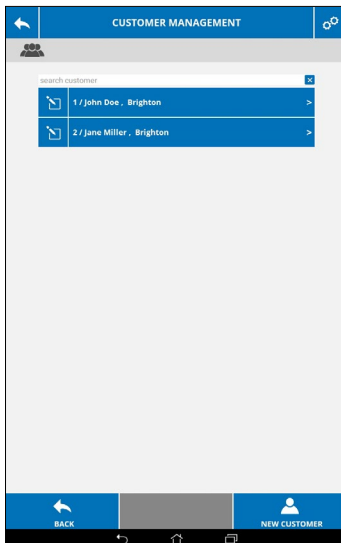

Fig. 26: Customer management
- In CUSTOMER MANAGEMENT tap the arrow (>) in the same line as the customer file (see Fig. 26) to access the previously created projects, properties and multi-point tests.